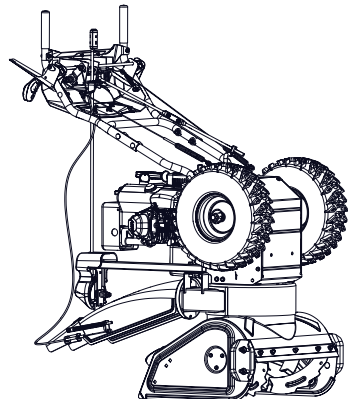

Figure 15
See Figure 15.
1. Place unit in service position. See Figure 15.